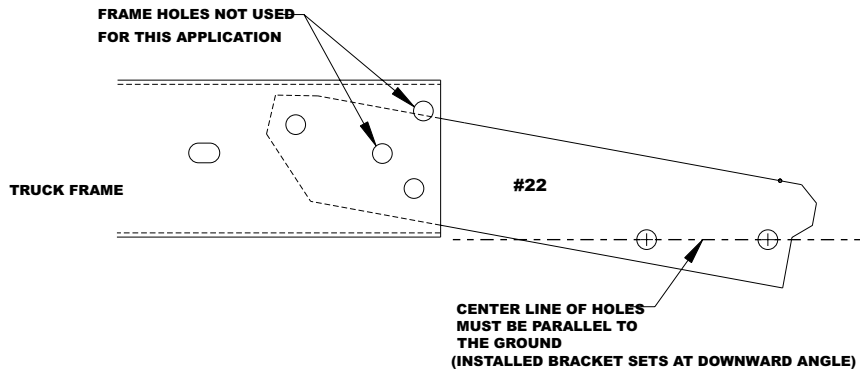

FIGURE 1 (driver side view)
STEP 1: Using 1/2 inch hardware, loosely install mounting brackets on the inside of truck frame rails with the offset outward. Refer to figure 1 and 2. **DO NOT TIGHTEN** mounting hardware.